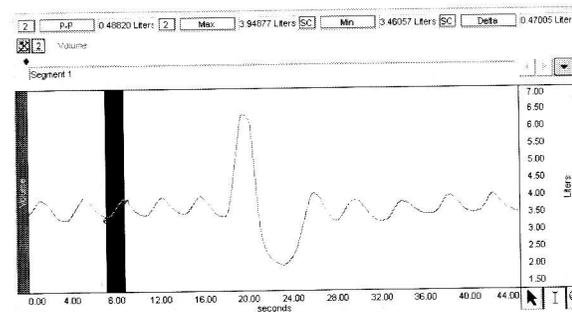

Fig. 12.22 Inhalation of third breath cycle selected to measure P-P
- a) Use the **I-beam** cursor to select the **inhalation** of cycle 3 and note the P-P result (Fig. 12.22). The selected area should be from the valley to the peak of the third cycle.
The P-P measurement in Fig. 12.22 represents the first value required for the averaged TV calculation.